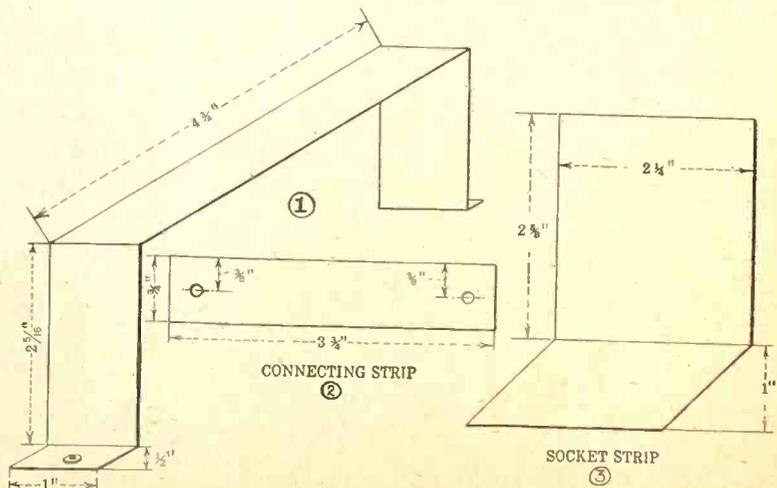

FIG. 4, showing the different dimensions of the aluminum strips required.
Procure an aluminum strip, $9\frac{3}{8}$ " long and 1" wide. Bend as per Fig. 4. (1). This strip is used for mounting the condenser bank and the sockets. Drill holes for mounting the sockets. The exact positions of these holes will not be given as they vary for different sized sockets,
no special make being necessary. Lay this aside. Now procure two pieces of aluminum stripping, $3\frac{3}{4}$ " in length and $\frac{3}{4}$ " in width, Fig. 4 (2), used for con-
necting the laminations of the choke coils, using the closed core style (Fig. 6). The last piece of stripping required is that for the socket. This is $3\frac{5}{8}$ " in length and $2\frac{1}{4}$ " in width and is seen in Fig. 4 (3). By following the template, shown last week, the holes for the mounting of the strip on the baseboard, may be obtained. For the positions of the holes holding the input voltage socket, it is best to make the measurements direct from the type of socket employed, as the size and positions vary.
holes are for the mounting of the panel on the baseboard, as per Fig. 4, last week.